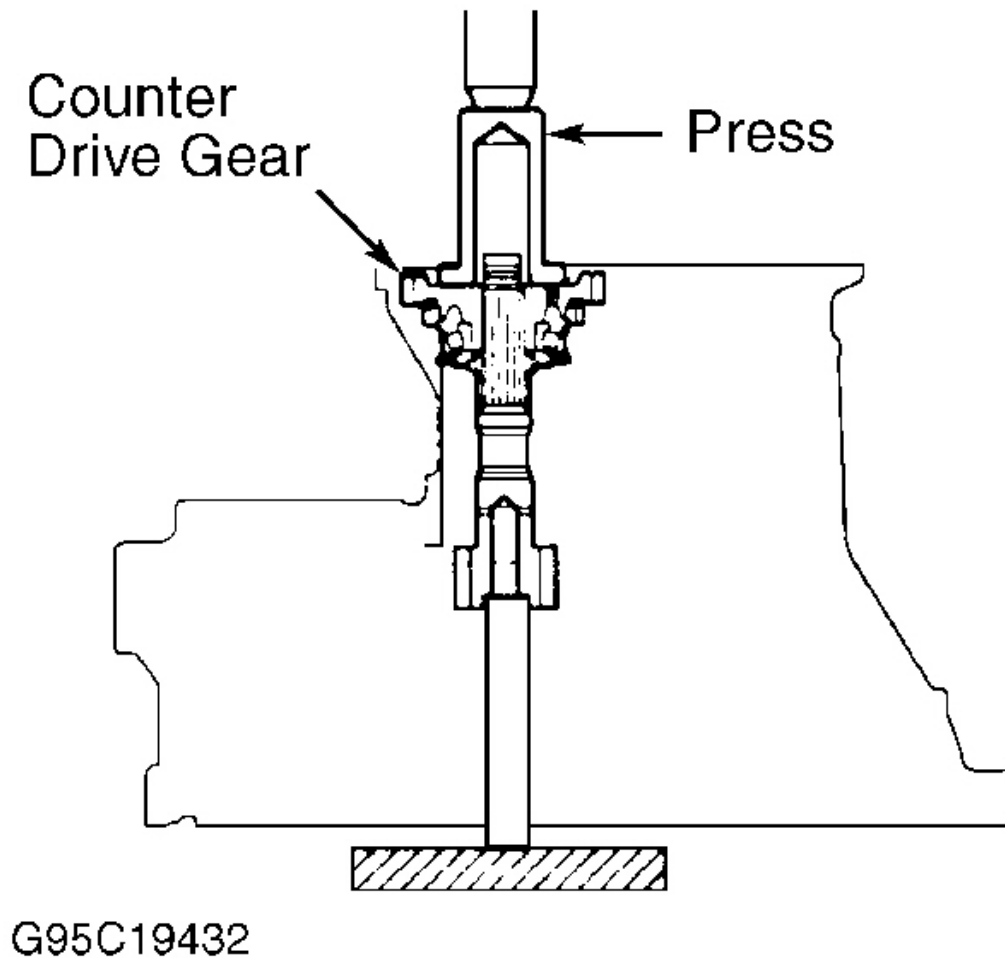

Fig. 65: Installing Driven Pinion
2. On A-540E transaxle, install sensor rotor. On all transaxles, install oil slinger and NEW spacer (crush sleeve). Install spacer with small end downward. Press outer race into case. Place transaxle case with converter side facing down. Support drive pinion shaft with brass bar. See Fig. 65 . Using press, install driven gear until bearing almost touches counter gear.